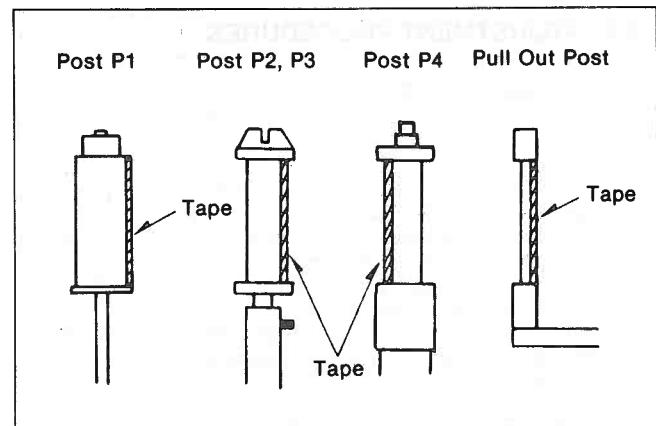

Figure M17
7. Play back a normal cassette tape and make sure that the edges of the tape are not curling at the bottom or top end of the posts P1, P2, P3, P4 and pull out post as shown in Figure M17 and M18.